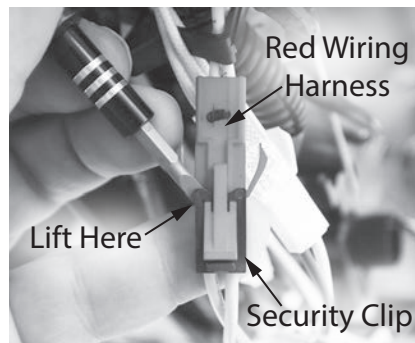

Figure 196 - Red wiring harness clip removal
**9** Trace the yellow wires from the condensate trap to the red wiring harness and disconnect them. See Figure 196.